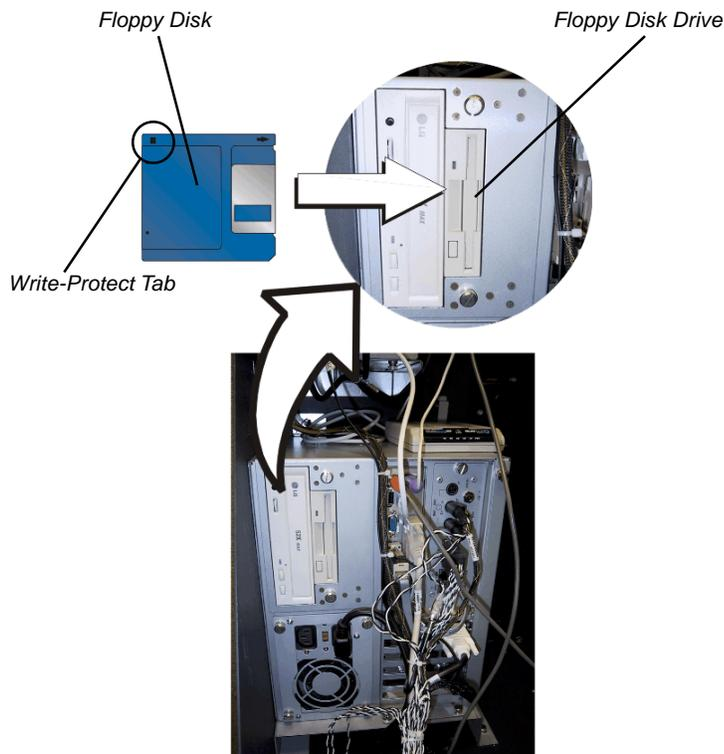

Fig. 12-1. Location of Floppy Disk Drive.
2. Locate the floppy disk drive, as shown in Figure 12-1.